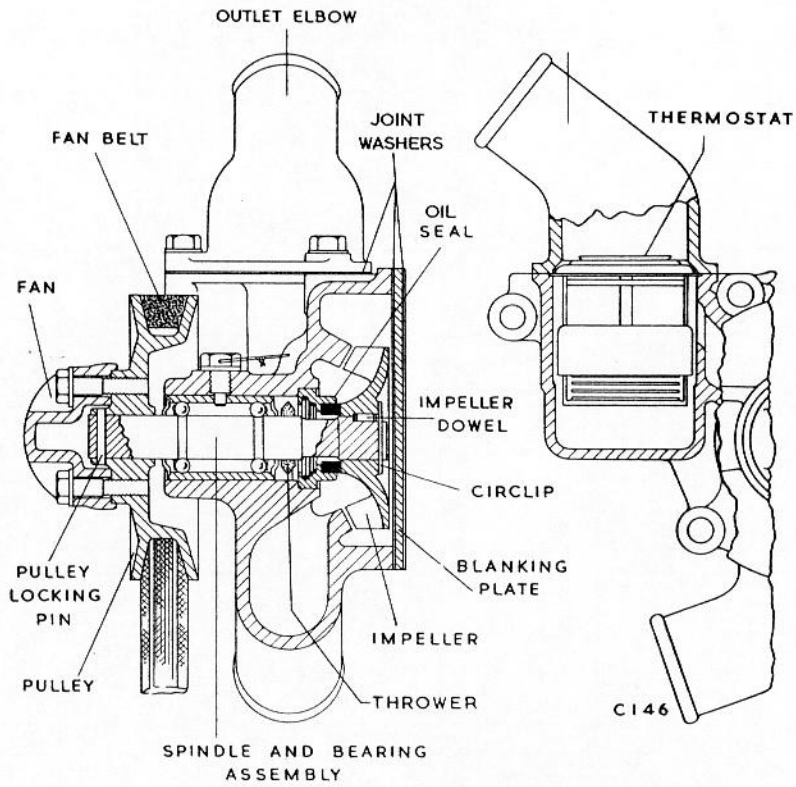

Fig.1 Section view of pump.
Fig.1 shows the construction of the water pump. The rear portion of the light alloy body forms the impeller chamber which is closed by a blanking plate, a joint washer being fitted to each side of the plate. Incorporated in the plate is the outlet port from impeller chamber to the cylinder head water jacket and the port from the jacket to the thermostat valve housing. The thermostat valve housing also mounts the connection elbow for the return hose to the radiator.
2. Referring to Fig. 1, fit the thrower over the spindle and onto the face of the bearing.